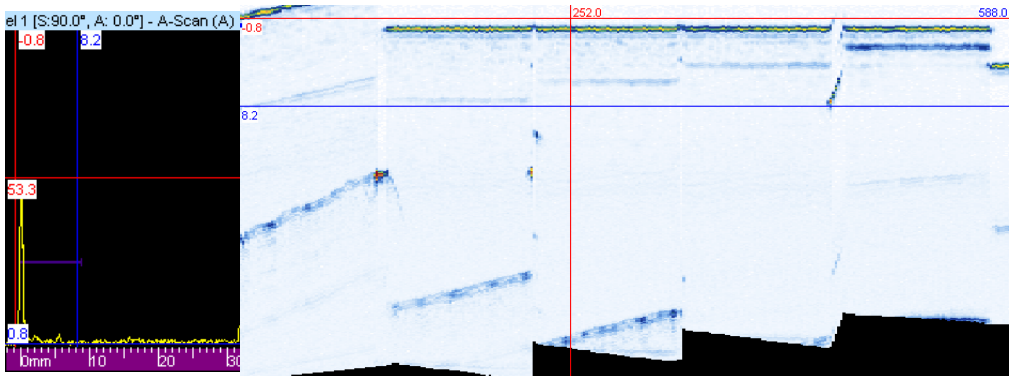

Figure 7-58 Example after resynchronization
- On the menu, select **Processing > Resynchronize A-scans** to resynchronize the A-scans. Figure 7-58 on page 399 shows the resulting A-scan and C-scan.